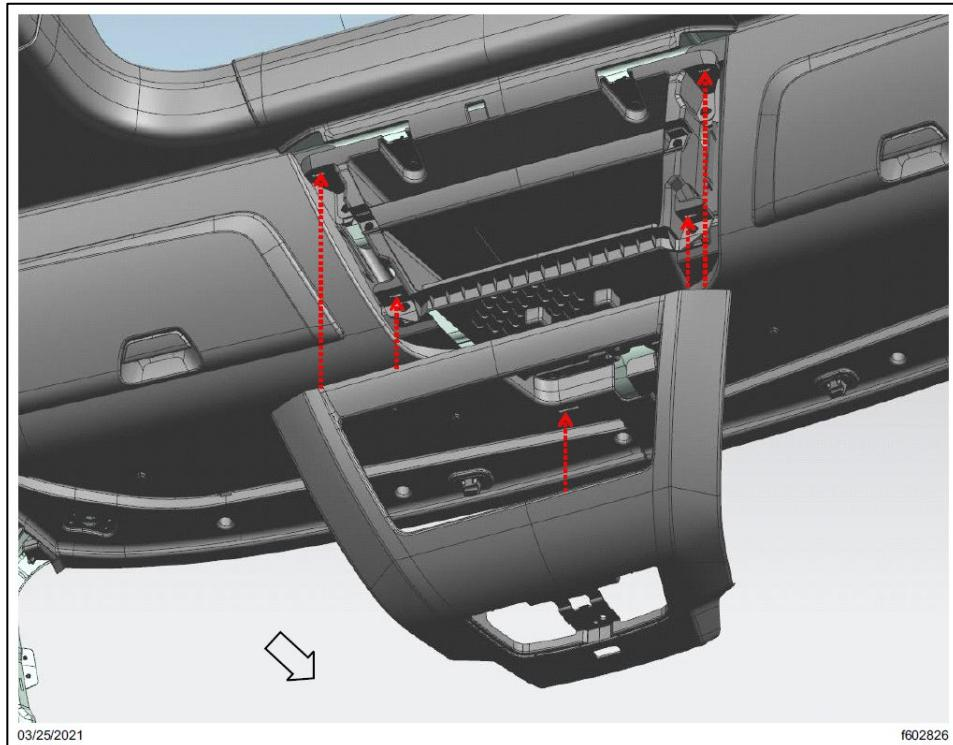

Fig. 68, Position and Attach the Center Bezel
14.7. Place the center bezel by inserting the pillar clips into the slots in the center overhead storage bin, and LH and RH side overhead storage cabinets. See **Fig. 68**.